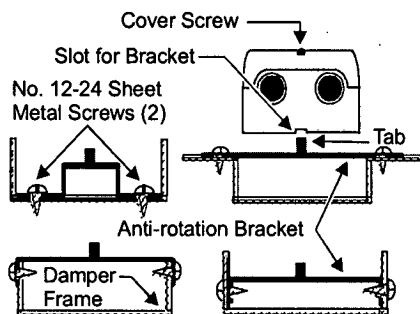

Figure 4: Anti-rotation Bracket Positions
- Bend or cut the anti-rotation bracket to fit the damper frame or duct as shown in Figure 4.
- Slide the actuator onto the damper shaft, positioning the anti-rotation bracket tab into the slot at the bottom of the actuator. (See Figure 4.)